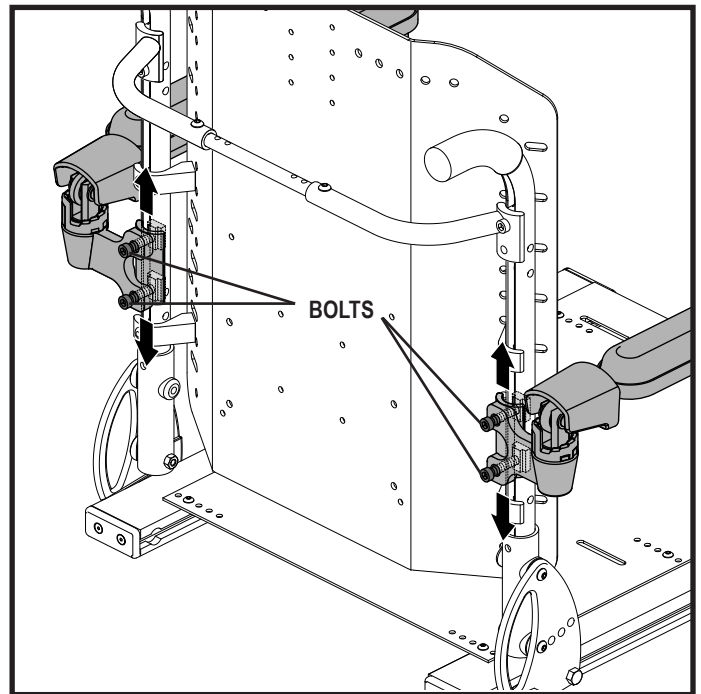

Figure 18. Height Adjustment for Cantilever Armrests Not Attached to the Push Bar
1. Loosen the two bolts on the armrest bracket. **See figure 18.**